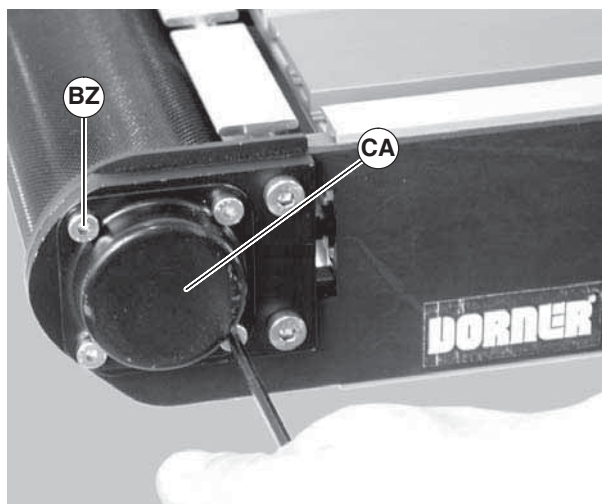

Figure 58
3. Remove four shaft cover screws (Figure 58, item BZ). Remove the shaft cover (CA).